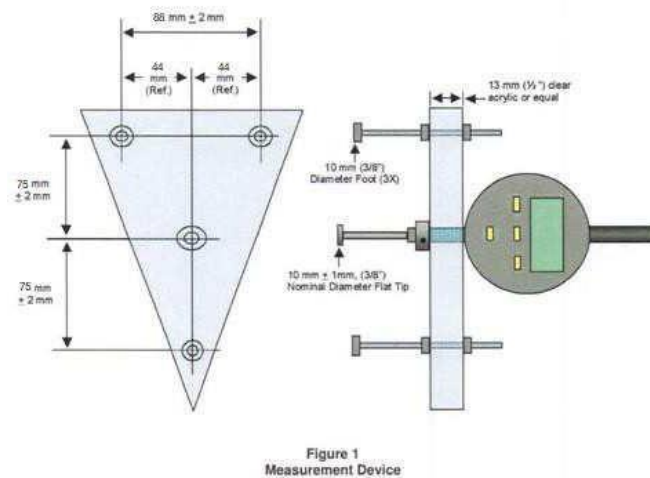

Figure 1: Measuring device
5. A possible measuring device comprises a flat supporting frame with two or three supporting feet and a comparative measurement display, with the aid of which changes in the surface thickness can be measured at given points. See Figure 1. The device must be equipped with a micrometer measurement display capable of performing measurements to a nominal 25 mm in increments of 0.02 mm. The foot/stands of the display must have a diameter of 10 mm + 1 mm with an acting force of 100 g + 14 g. Other suitable devices may be used where they exhibit at least a comparable capacity for measurement.